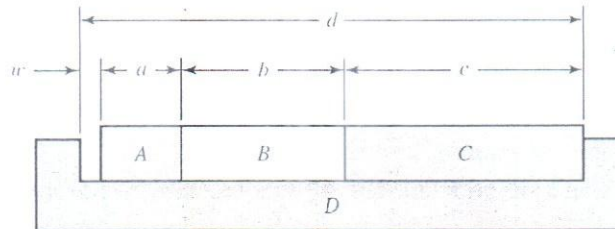

Figure 1
- 1 (a) **Figure 1** showing several blocks *A*, *B*, *C* and a grooved block *D* having dimensions listed *a*, *b*, *c*, and *d* as follows: (10)